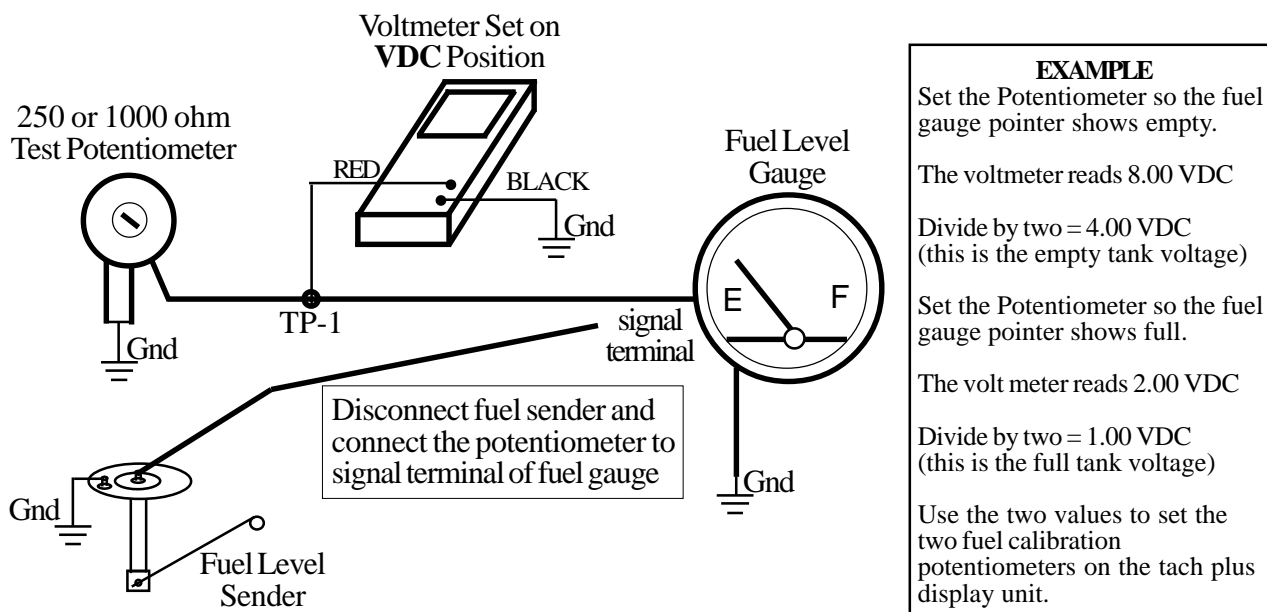

Figure 3. Fuel Level Calibration
1. Disconnect the fuel level sending unit from the fuel level gauge at the signal terminal wire (refer to Figure 3).